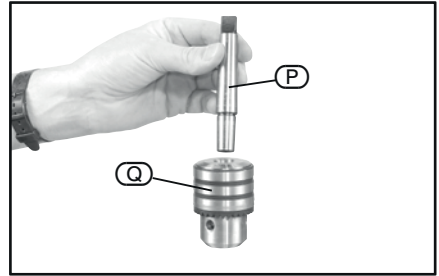

FIG.9
8.6 CHUCK AND ARBOR - FIGS. 9 - 10